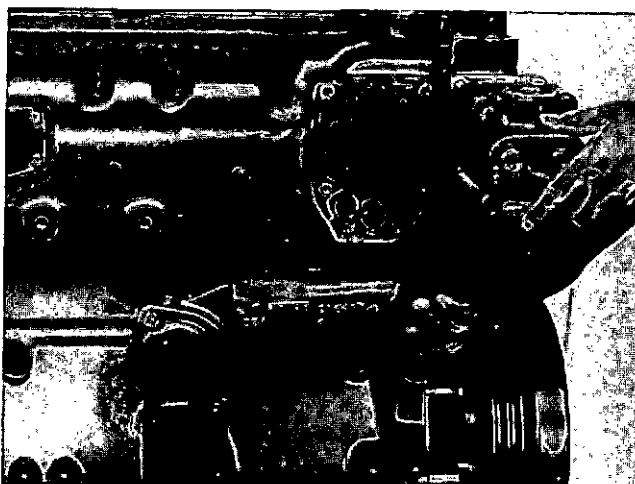

Fig. 0-16 (N100142). Remove The Water Pump Inlet.
2. Remove the capscrews, lockwashers and flatwashers that hold the inlet for the water to the water pump. Remove the inlet and discard the gasket, Fig. 0-16.